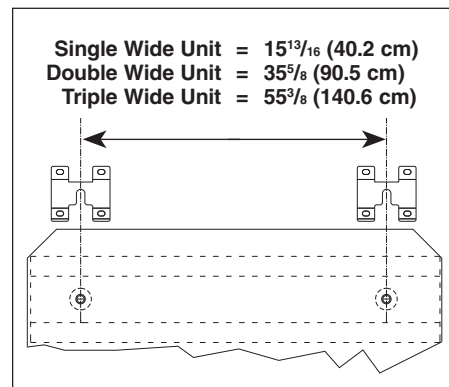

Fig. 2
7. Slide unit back, aligning the feet with the slots in the floor brackets, 1 1/2" (38mm). Slide unit back onto the floor brackets, capturing the leveling feet pads under the slots in the brackets (Fig. 2). Lower unit by turning the rear leveling screws counter-clockwise until the base is about 3/4" (19mm) off the floor. Base frame must lock into the legs on the bracket (Fig. 2).